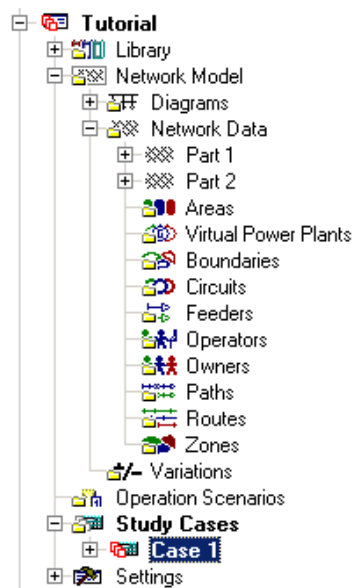

Figure G.1.1: Database tree
- Expand the Tutorial project in the tree. The Tutorial project should now look like depicted in Figure G.1.1. Both the Tutorial project and the study case should be active (red coloured icons).